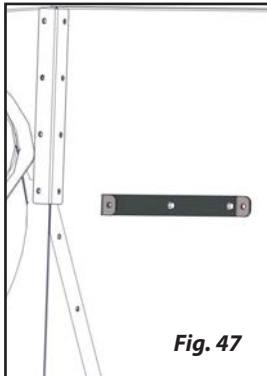
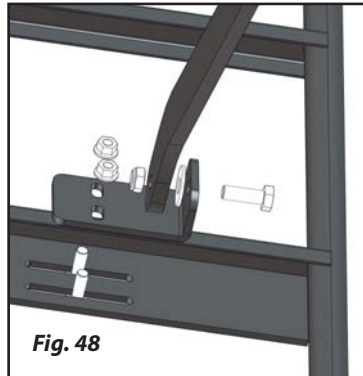
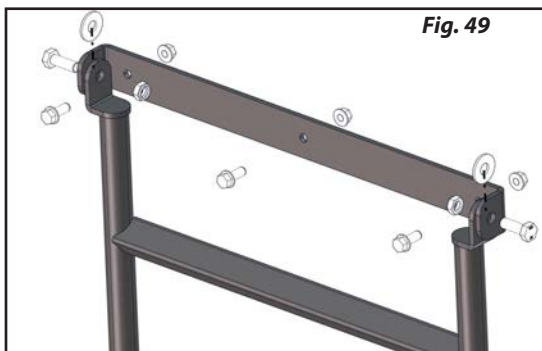

Fig. 47
Fig. 48
Fig. 49
- Attach the ladder mount bracket according to Fig. 47.
- Use (3) M10 x 25 hex bolts and (3) M10 hex nuts.
- Attach the ladder to the ladder mount bracket according to Fig. 49
- Use (2) M12 x 35 hex bolts, (2) M12 washers and (2) M12 nylon locking hex nuts.
- Attach the ladder support leg and support leg bracket to the ladder according to Fig. 48.
- Use (2) M10 x 25 hex bolts and nuts, M12 x 35 hex bolt, M12 nylon locking hex nut and a 1/2" washer.
- Tighten hardware installed with Fig. 47, 48, and 49. Do not over tighten pivoting bolts.